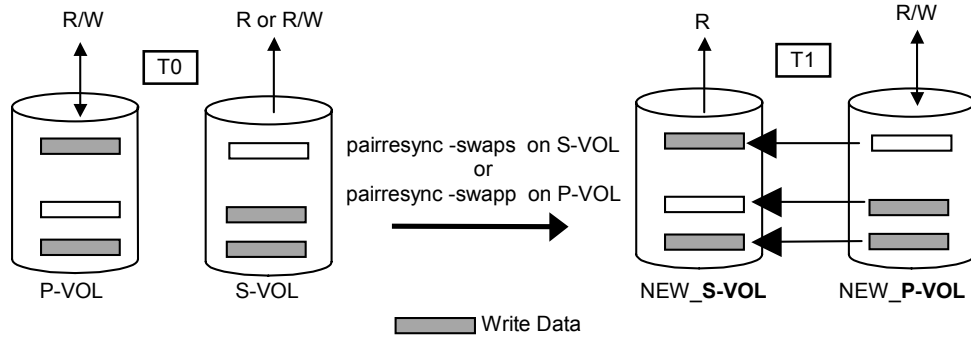

Figure 2.4 Swap Operation
- **Swap.** The pairresync (-swaps/-swapp) operation (see Figure 2.4) swaps the P-VOL for the S-VOL. The copy direction for a pairresync operation is S-VOL to P-VOL. The pair status during a pairresync (-swaps/-swapp) operation is COPY, and the S-VOL becomes inaccessible to all hosts for write operations during a pairresync (-swaps/-swapp) operation. The P-VOL remains accessible for both read and write operations, and the write operation on P-VOL will always be reflected to S-VOL.